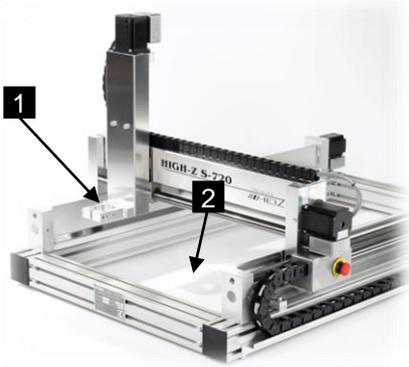

Abb. 18: Working area
- area of the tool holder (Fig. 18/1) (when turned off)
- Range of motion of the axes (Fig. 18/2) (when turned off) in order to clamp work pieces